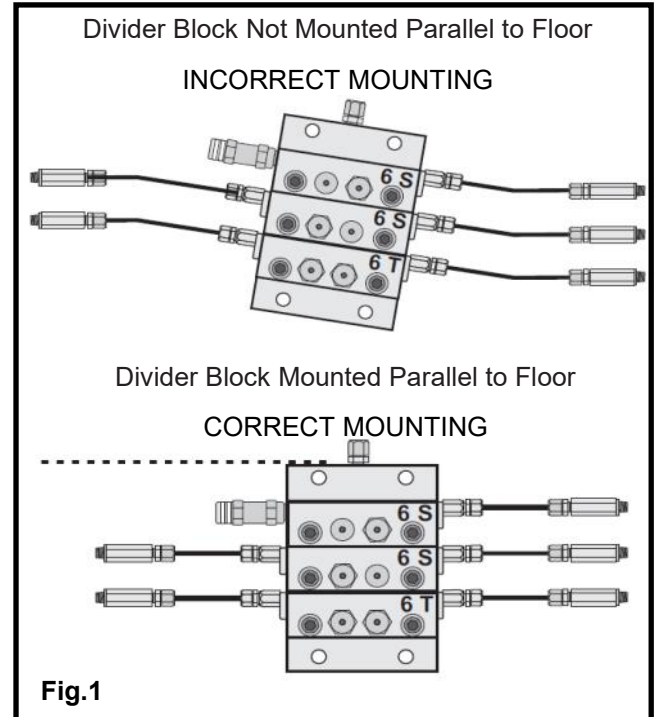

Fig.1
- Mount all divider blocks parallel to the floor. This allows complete purging of air from the system and makes it easier to install straight and plumb tubing runs. (See Fig.1)